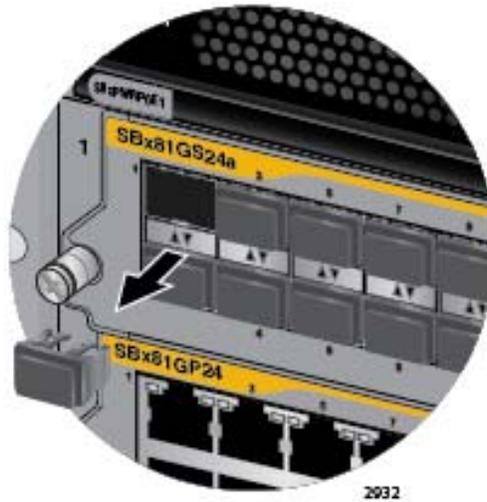

Figure 94. Removing the Dust Cover from an SFP or SFP+ Slot
2. Remove the dust cover from the SFP slot chosen for the transceiver. Figure 94 on page 159 shows the removal of the cover from slot 1.